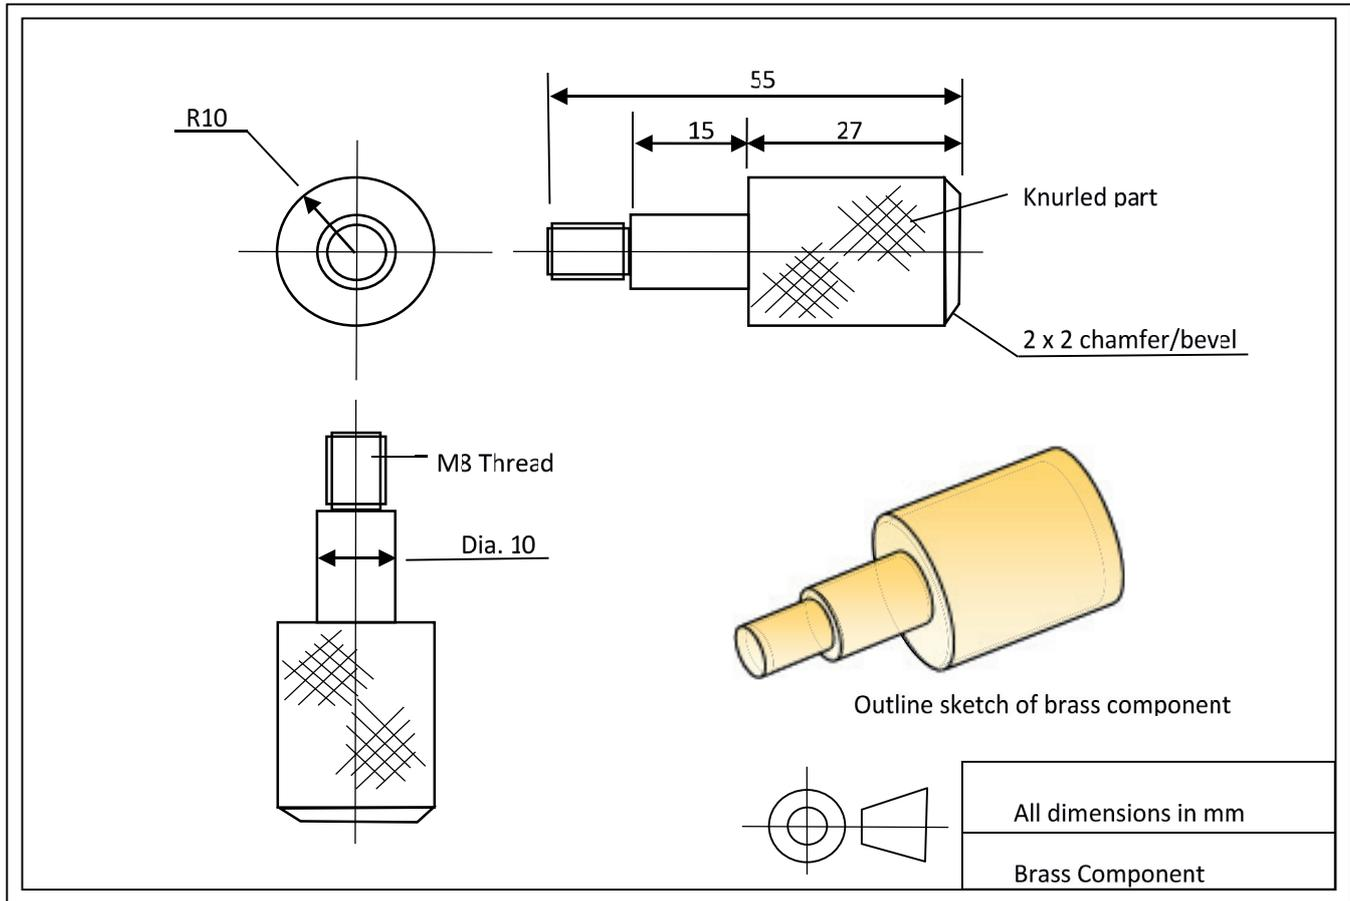
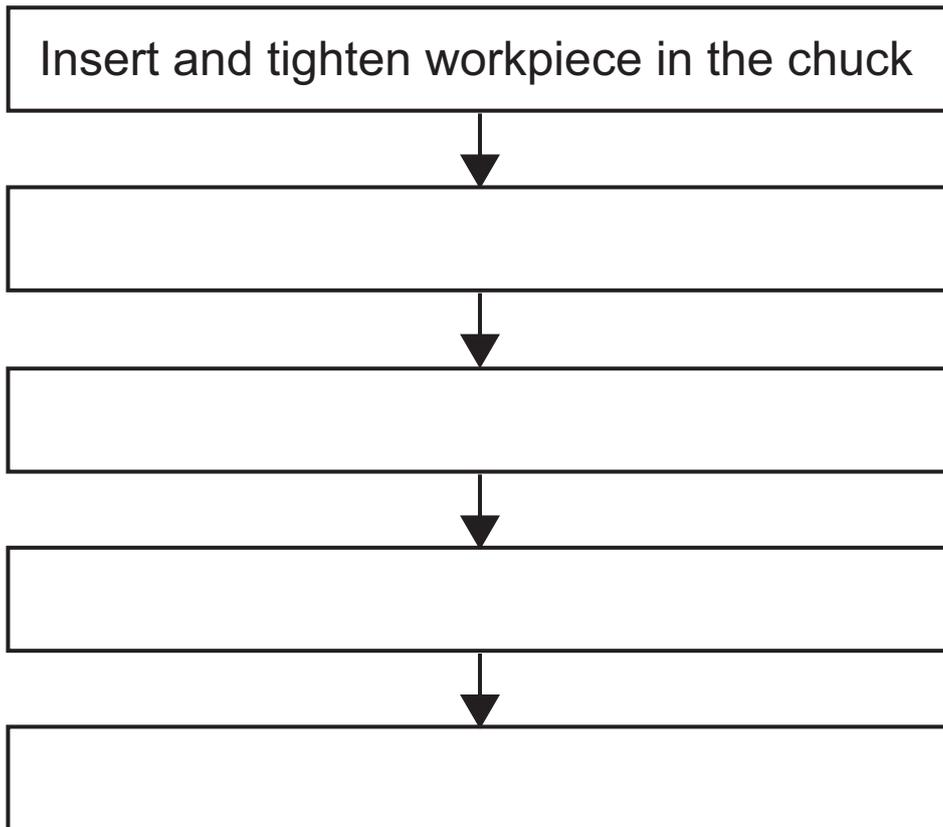

Fig. 2
Fig. 3
2 **Fig. 2** shows a Computer Aided Design (CAD) drawing and an outline sketch of a brass component. The brass component is to be produced using a manually operated lathe.
(c) Look at the brass component in **Fig. 2**. Identify **two** possible processes to be used by a manually operated lathe to produce this component. [1 mark for each]
- (d) The **five** bullet points below describe, in order, the general stages for operating a manual lathe to produce the component shown in **Fig. 2** on page 6. Complete **Fig. 3** on page 9 by **summarising** each of the bullet points as a key factor of each of the remaining stages. [4 marks]